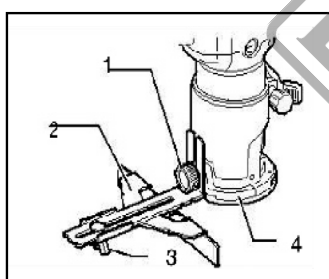

Fig. 14
2. Attach the straight guide with the clamp screw (A). (Fig. 14)